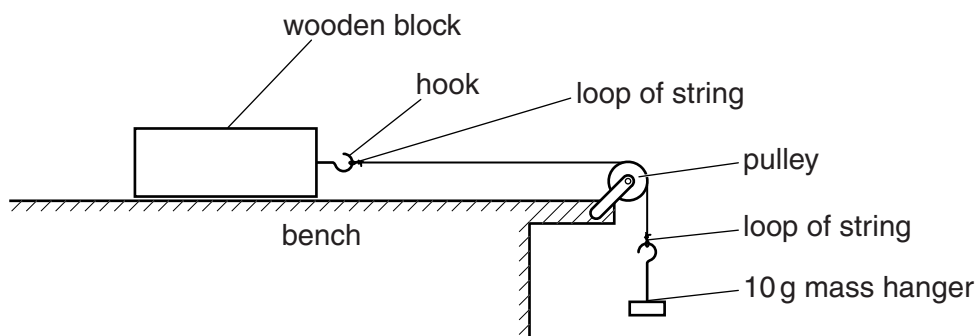

Fig. 4.2
4. The pulley should be set up at the edge of the bench so that the **candidate** can see the apparatus as shown in Fig. 4.2.